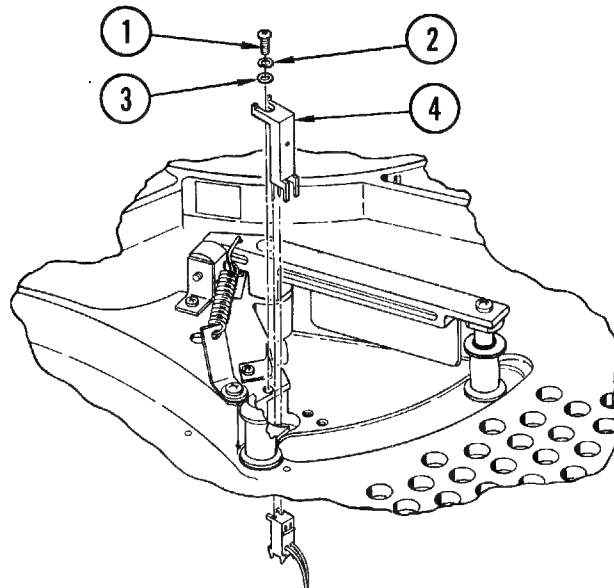

Figure 4-19. Tape-in-Path Sensor, Receiver
**4-33. Removal and Replacement (Figure 4-19).** Place the transport in service access position in accordance with paragraph 4-2 and proceed as follows: